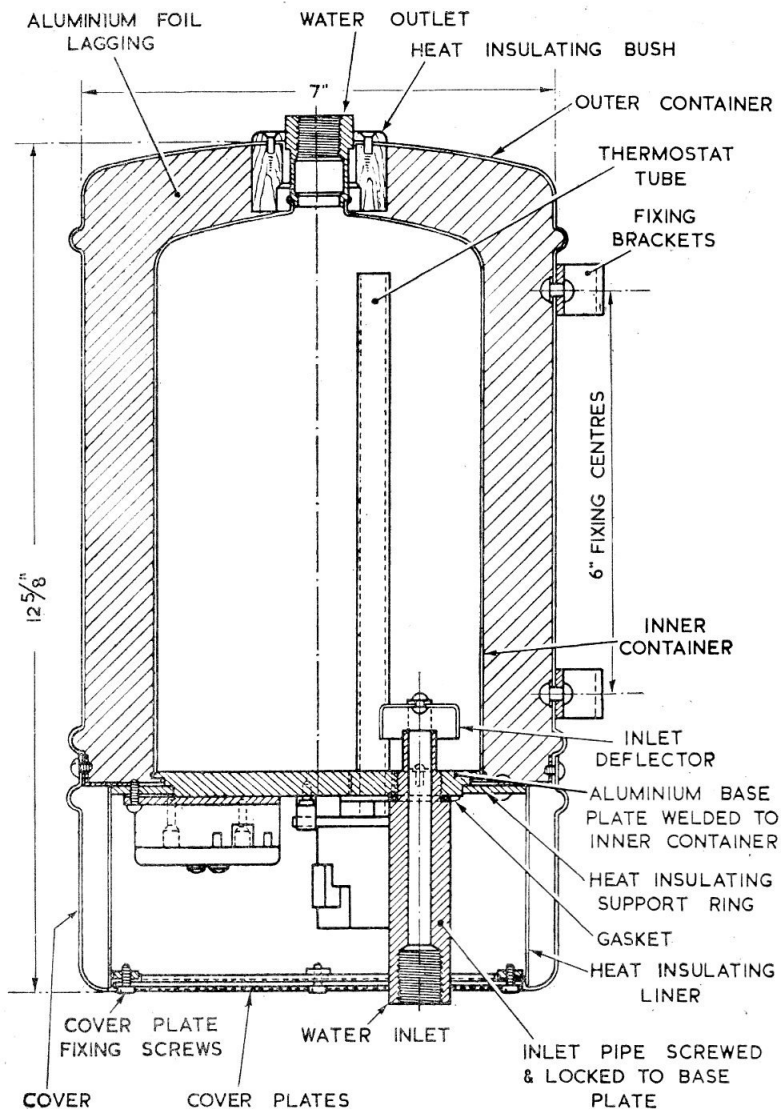

Fig. 1. Section view of water heater
2. A sectional view of the heater is given in fig. 1, the heater consists of the circular outer case and the inner storage container which are of aluminium alloy, the space between them is filled with aluminium foil lagging. The bottom of the inner container is closed by an aluminium base plate welded to the inner container and supported by a